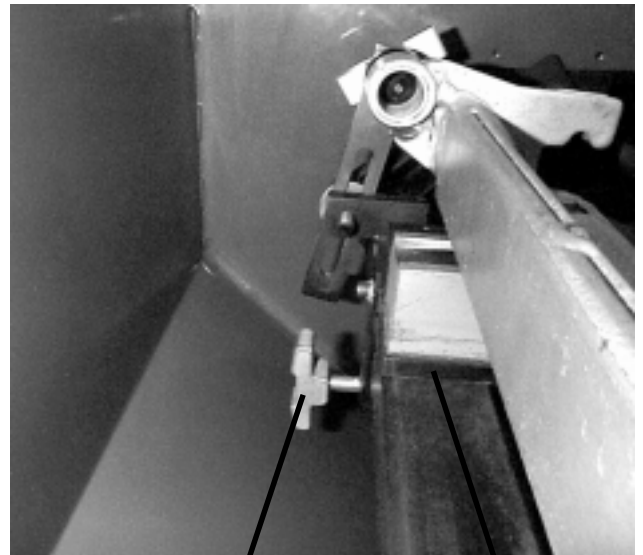

FIG. 24
1. Pull both gage tips forward and rotate the gage into position, straight up. Loosen the lock knob and on the right side magnet and center assembly. See FIG. 24. Set the bedknife / bedbar assembly to be ground on the magnets. Move the right side magnet assembly until the alignment gage tips are at both ends of the bedknife, then tighten the right side magnet lock knob enough to secure the magnet. When tightening, make certain the mount is tight to the tooling bar at top and front.